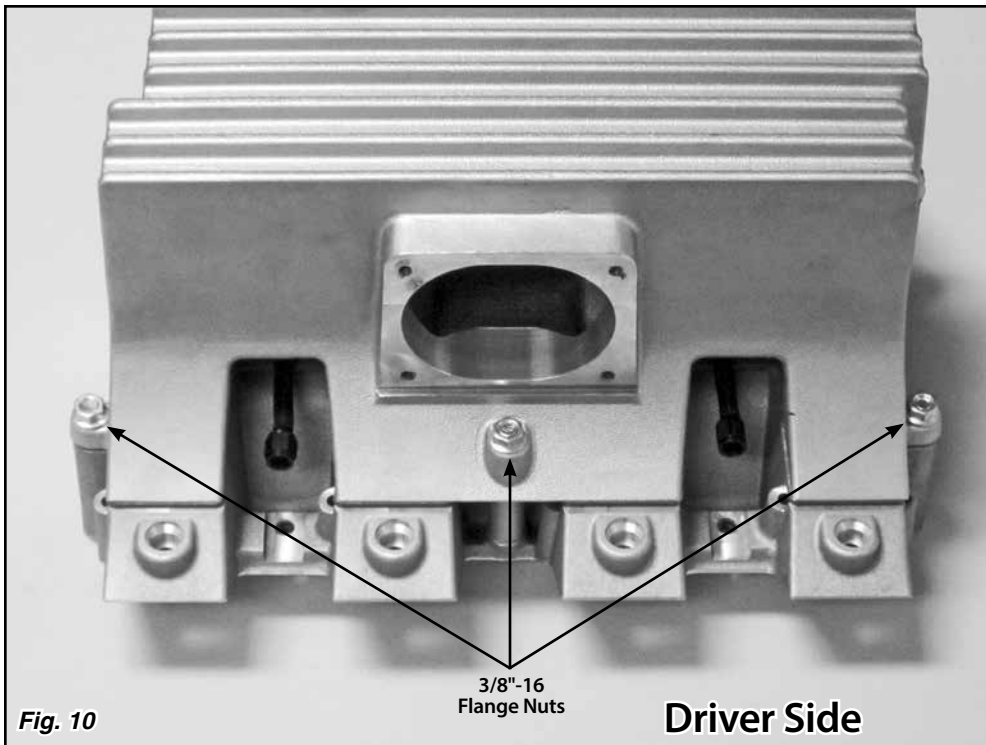

Fig. 10
**Step 9:** Install the six 3/8"-16 flange nuts (9/16" wrench size) onto the manifold. Tighten the two center nuts to 20 lb.-ft. Then, tighten the corners in a crisscross pattern to 20 lb.-ft. **Figs. 10 and 11**